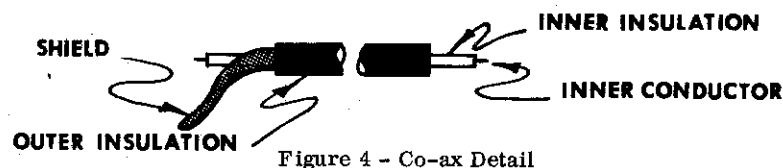

Figure 4 - Co-ax Detail
- () Referring to figure 4, prepare one end of the co-axial cable by stripping away 3/4-inch of the outer insulating sleeve to expose the shielding wire. Using a pencil, or other pointed object, carefully unbraid the shielding wire and pull to one side. Twist the shield tightly together and "tin". Cut the exposed inner conductor to a length of 1/2-inch. Strip away 1/4-inch of the inner conductors insulating sleeve, and twist and "tin" the exposed strands.